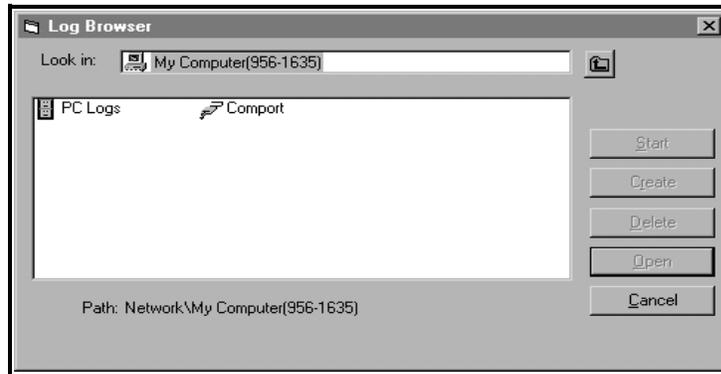

Figure 3-6: Log Type Selection
2. Double click on the *computer name* to advance to the dialog box shown in Figure 3-6 on the next page.